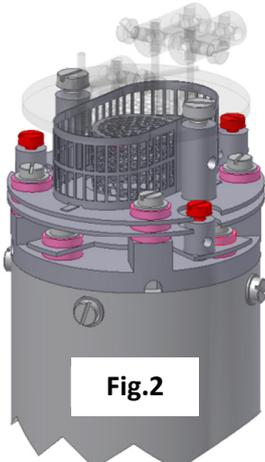

Fig.2
4. Loosen the three M2 x4 highlighted in red that secure the three insulated wires that run from the analyser flange assembly to the Source, Repeller and Extractor plates and slightly bend the wires out of the way, see Fig.2.